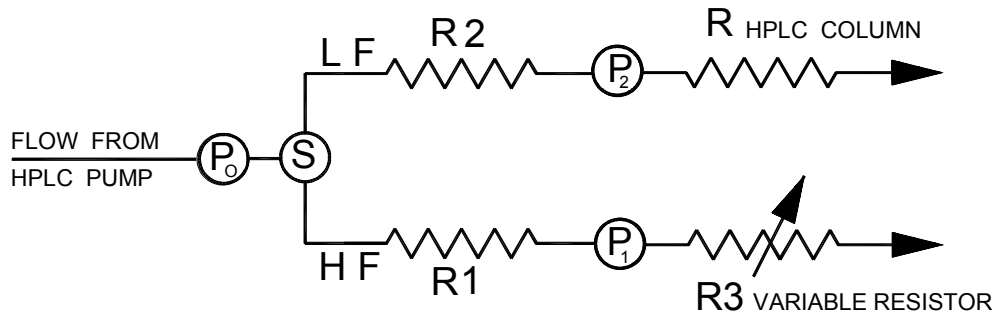

Figure 1. Schematic diagram of the Model AS650
Incoming flow from the HPLC system is split by a static splitter S into low flow (LF) and high flow (HF) channels (Figure 1). Pressure drop across both channels is measured by low volume transducers P0, P1, and P2. The ratio of the differential pressures P0-P1 and P0-P2 are measured and maintained by automatic feedback control of variable resistor R3. The low volume of the splitter and resistors allows an accurate means to calculate and deliver a split flow rate which is independent of solvent viscosity.